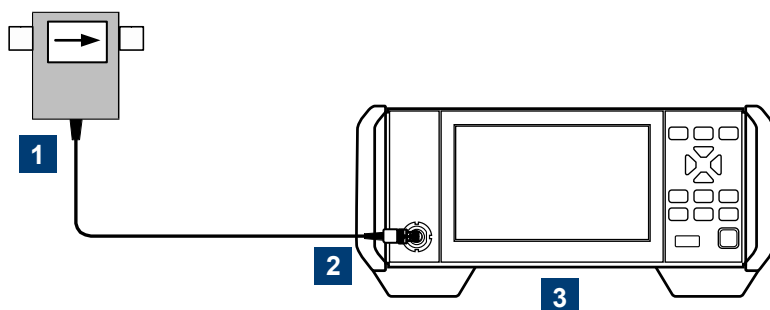

Figure 3-3: Connecting to base unit
- ▶ Connect the host interface connector of the R&S NRT-Zxx, (2) in Figure 3-3, to the sensor interface of the base unit.